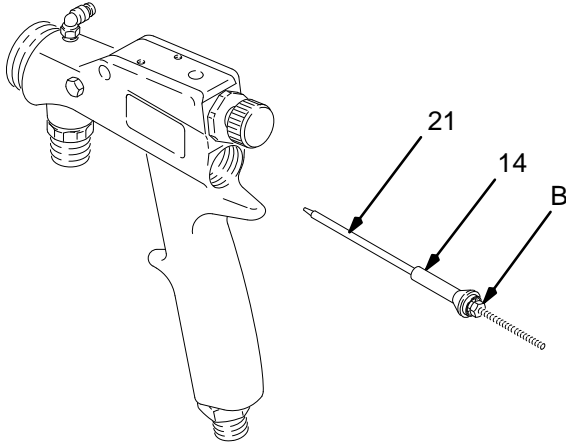

Fig. 38
- Slide the new air valve (14) onto the fluid needle (21) until it is against the nut (B). See Fig. 38.
- Install the fluid needle (21) and air valve (14) into the back of the gun.